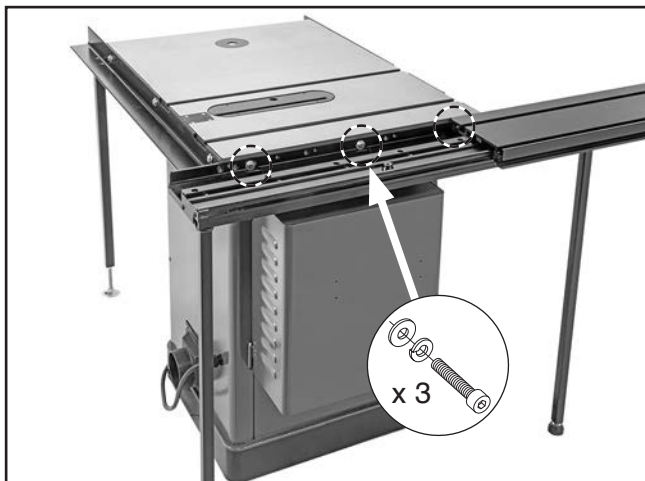

Figure 9. Sliding table secured to saw table.
18. Use sliding table lock knob to release sliding table, and slide table backward to reveal (3) mounting holes in table base.
19. Align pre-drilled holes in table base with threaded holes in saw table (see **Figure 9**) and secure as instructed below:
- **G0771Z, G0899, G0962, W1837:** Use (3) M10-1.5 x 40 cap screws, 10mm lock washers, and 10mm flat washers.